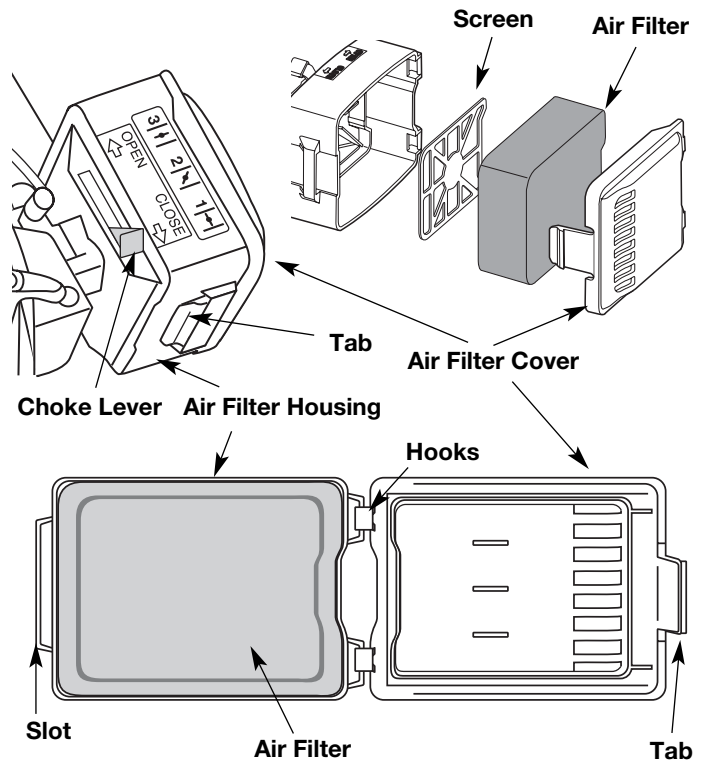

Fig. 19
1. Open the air filter cover. Push the tab on the left side of the cover in, swing the air filter cover out and off the air filter housing (Fig. 19).
2. Remove the air filter and the screen that sits behind it (Fig. 19).
- Replace the filter (Fig. 19).